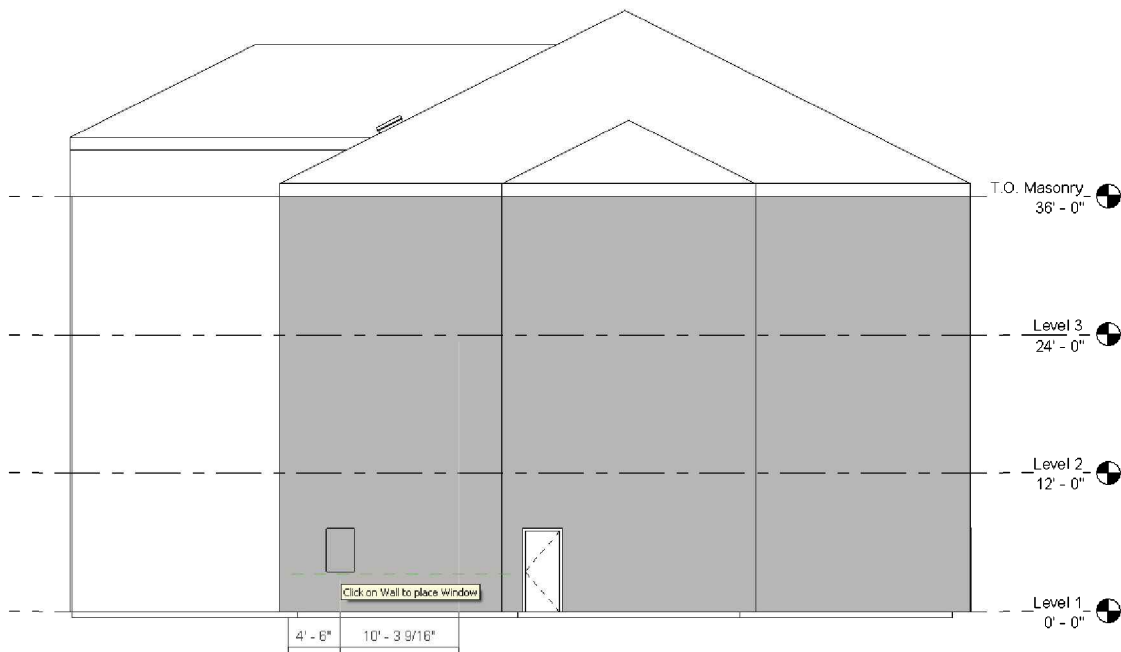

FIGURE 8-2.1 Placing a window
4. Place a window as shown in **Figure 8-2.1**; make sure the bottom of the window “snaps” to the cyan sill line.